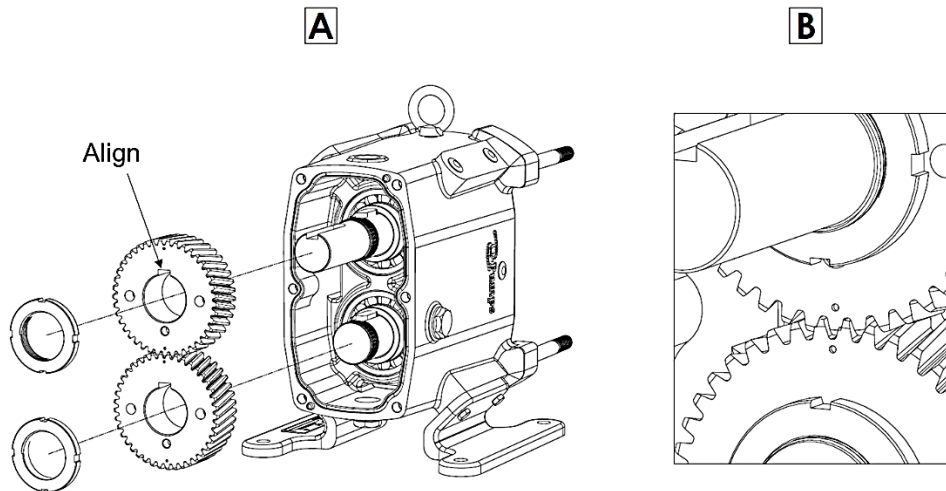

Figure 55: Installing Gears to Check Timing
7) In order to ensure proper rotor timing the gears must be installed along with the rotors. Slide the gears on the shafts, aligning the slot on the gear with the gear key (Figure 55, A). Secure them in place using the gear lock nuts making sure that the dots on the gears line up (Figure 55, B).